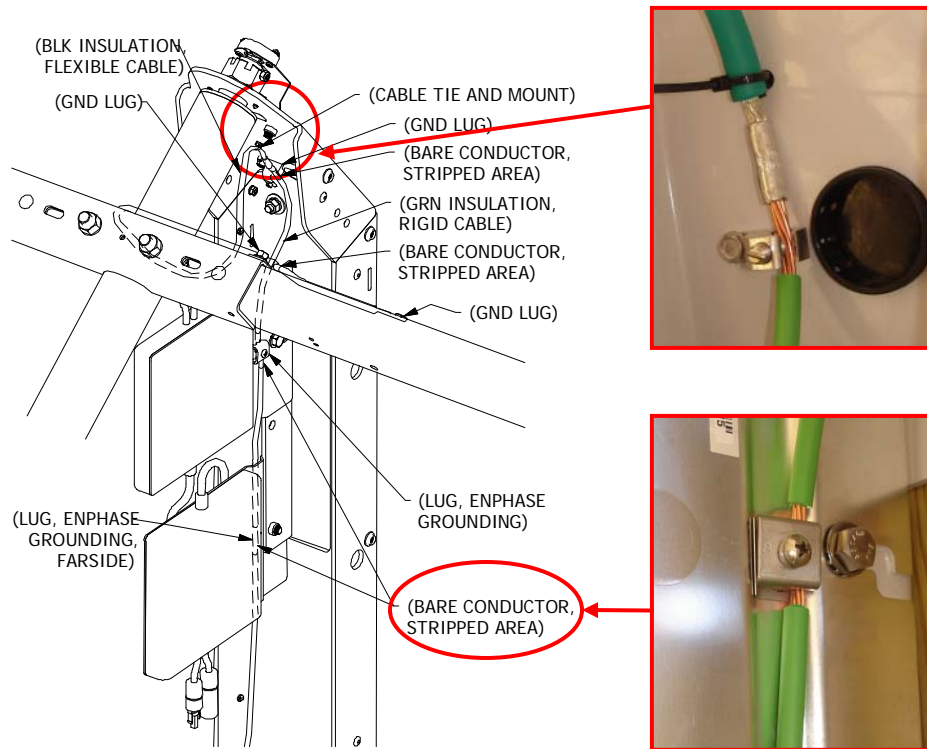

Figure 13
- Route the Ground cable (#6 AWG), as shown, through the frame Ground lug and the Inverter Ground lugs. Fasten securely using cable tie and mount. See Figure 13.